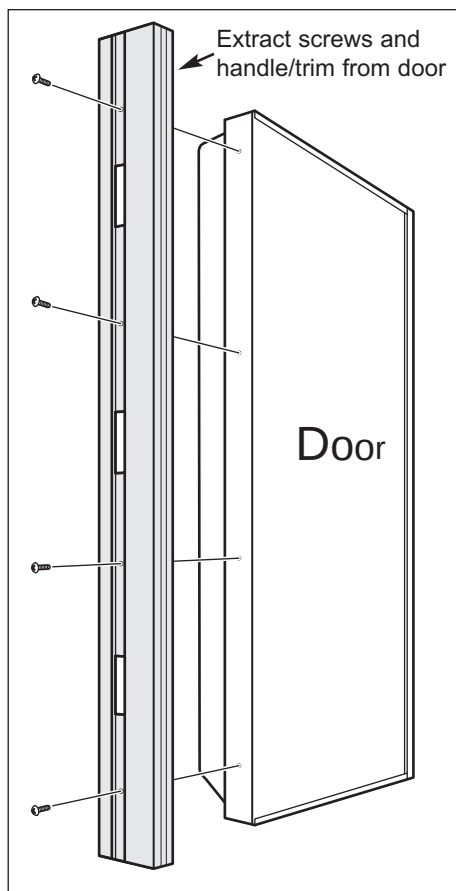

Figure 2-9. Handle/Trim Removal
2. Extract mounting screws and handle/trim from door (See Figure 2-9).